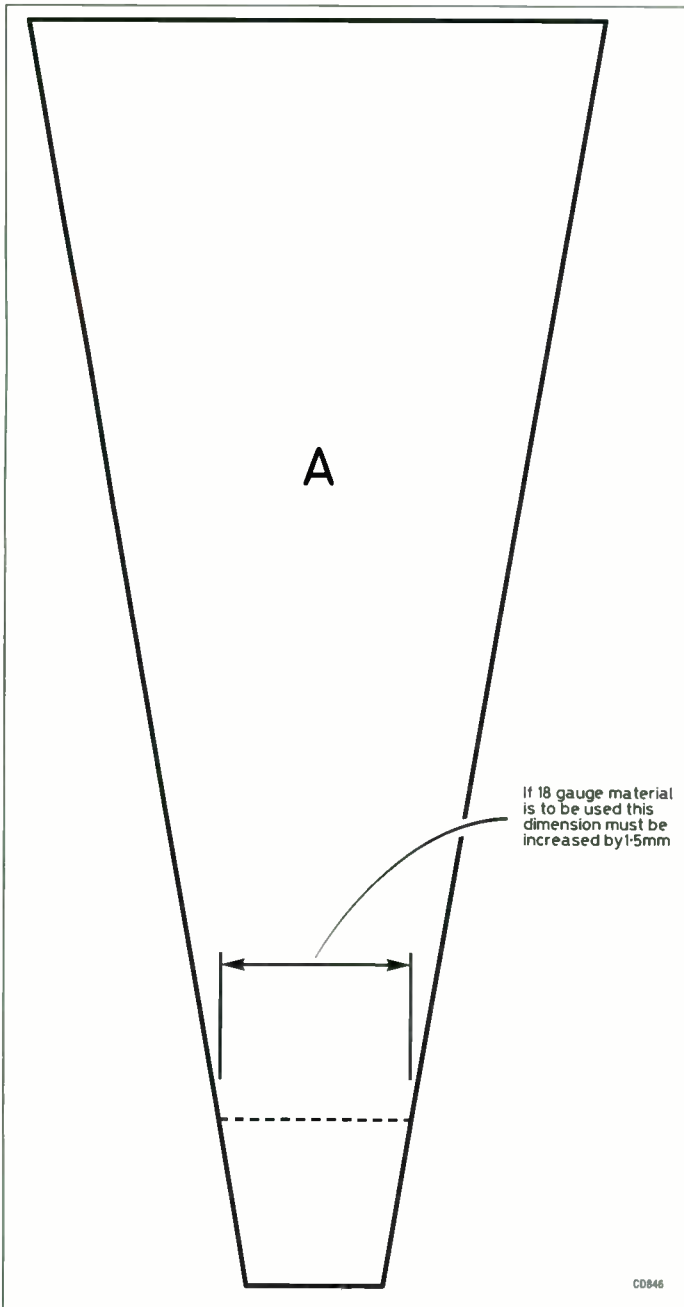

Fig 3.37. Template for side 'A'. Drawing is full-size – use the inside of all lines
Now draw lines by joining the ends of the long and short lines to complete the flare of the horn (6). These lines should continue beyond the short ends to allow for the tab which will be used to solder the horn to the waveguide. The next step is best carried out by the use of a steel rule and a sharp modelling knife or a scalpel. Cut out the two shapes you have drawn, being as accurate as possible. To avoid the problems of marking out the templates, two full-size diagrams are to be found in Figs 3.37 and 3.38. Place the two templates on one of the larger pieces of tin-plate so as to get them in the flattest regions of the sheets. Leave at least 10mm around the template and then, holding it completely still, mark around the outline using a sharp point such as that of a compass. Repeat using the other template, again using the best parts of the tin-plate. Finally mark out the flanges on the 'A' side (7) and the tabs (8) on both 'A' and 'B' sides.